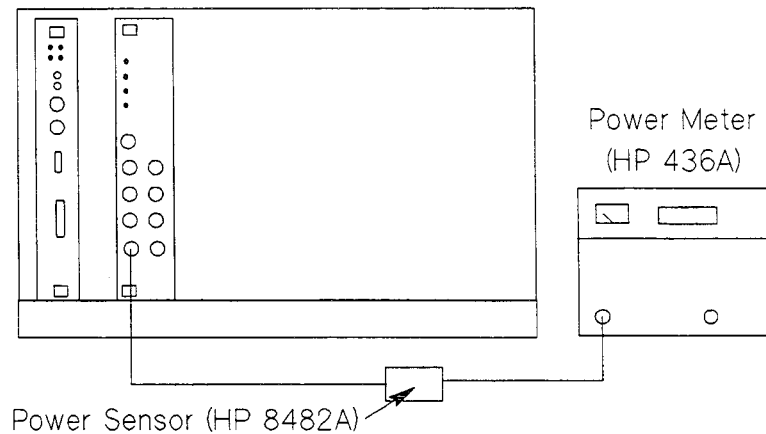

Figure C-10.
3. Connect the output of the HP E1440A to the power meter via the power sensor, as shown in Figure C-10.